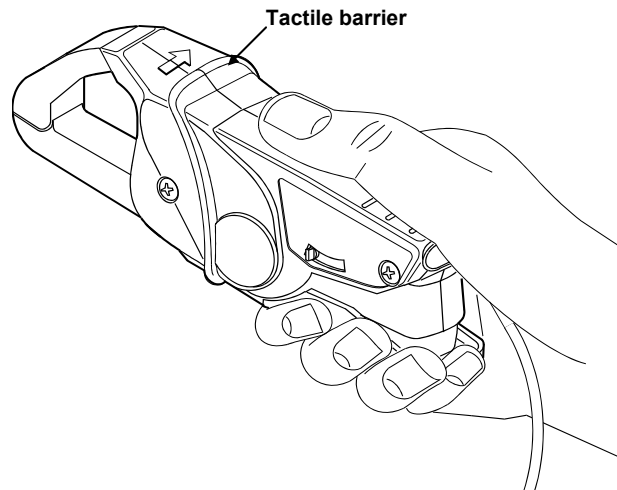

Figure 1. Safely holding the Current Clamp
- Do not hold the Current Clamp jaws beyond the tactile barrier, see Figure 1.